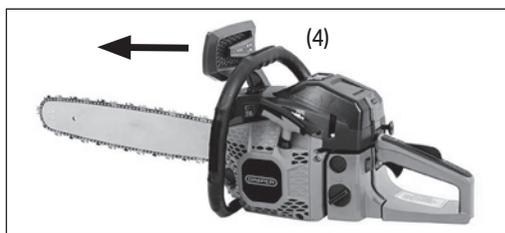
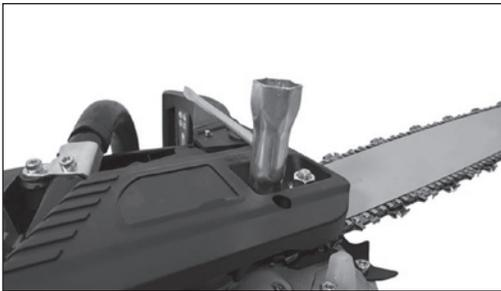

Fig.2
Fig.8
## 6.2 Attaching/Adjusting Guide Bar and Chain Assembly (Fig.2 – Fig.8)
1. Position the chainsaw, ensuring the chain brake is disengaged. (Fig.2).
- To disengage, push the chain brake level (4) forward.
- Fasten the fixing nuts using a box spanner (Fig.8).